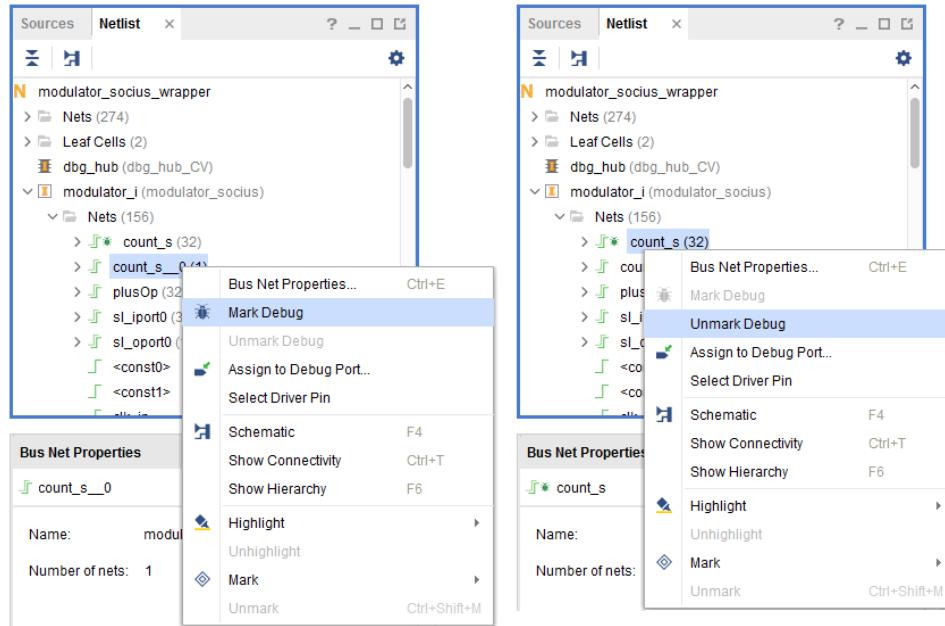

Figure 11.18: Mark and Unmark Debug option
- Select the net, right-click on it, and choose **Mark Debug** or **Unmark Debug** option, see Figure 11.18.